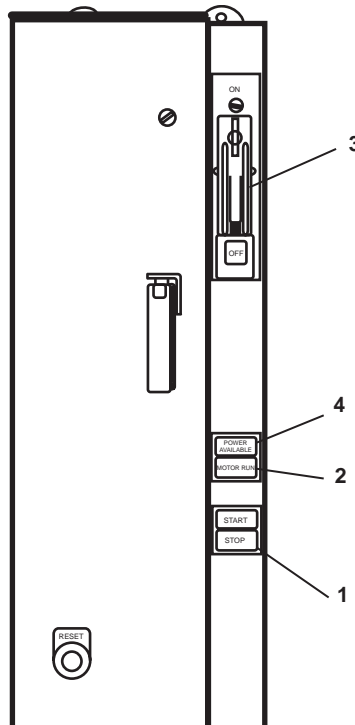

Figure 1. Fuel Oil Transfer Pump Motor Controller
- a. Press the STOP pushbuttons (figure 1, item 1).
- b. Verify that the MOTOR RUN indicators (figure 1, item 2) go out.
- c. Set the ON-OFF switches (figure 1, item 3) to OFF.
- d. Verify that the POWER AVAILABLE indicators (figure 1, item 4) go out.